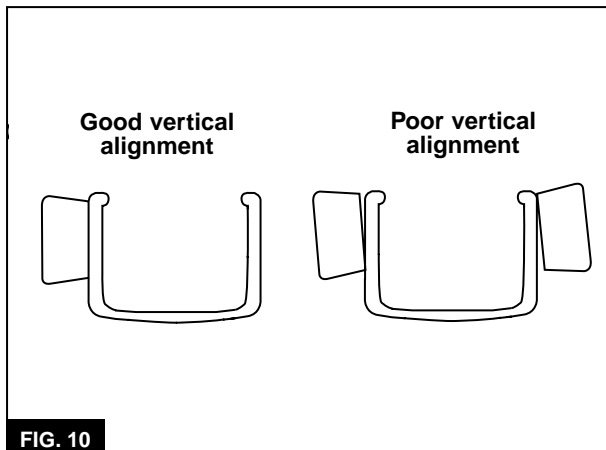

FIG. 10
Vertical alignment sets the position of the pad's vertical plane relative to the brake surface of the rim (**Figure 10**). The pad's vertical plane should parallel the vertical plane of the brake surface of the rim.
5. Visually inspect the pad for vertical-angle alignment. If necessary, manipulate the pad so the pad face parallels the surface of the rim (**Figure 10**).
5. Visually inspect the pad for vertical-angle alignment. If necessary, manipulate the pad so the face of the pad parallels the rim (**Figure 10**).